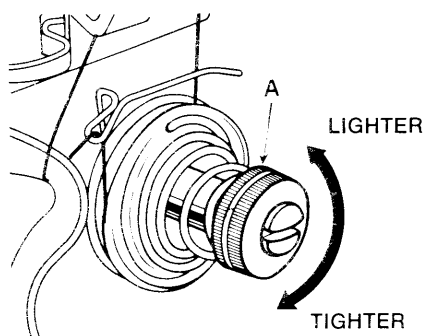

FIG. 1
Tension on the top thread can be adjusted by turning the tension nut (A) in Fig. 1. Tension may be adjusted for variances in thread and material being embroidered. If tension is *too tight* it may cause thread breakage, puckering of material, the bobbin will be too wide on the back or the bobbin may pull up and show through the top of the material. If tension is too loose, thread may loop on top or bottom of material, embroidery will not lay smoothly and very little bobbin will show on back of monogram.